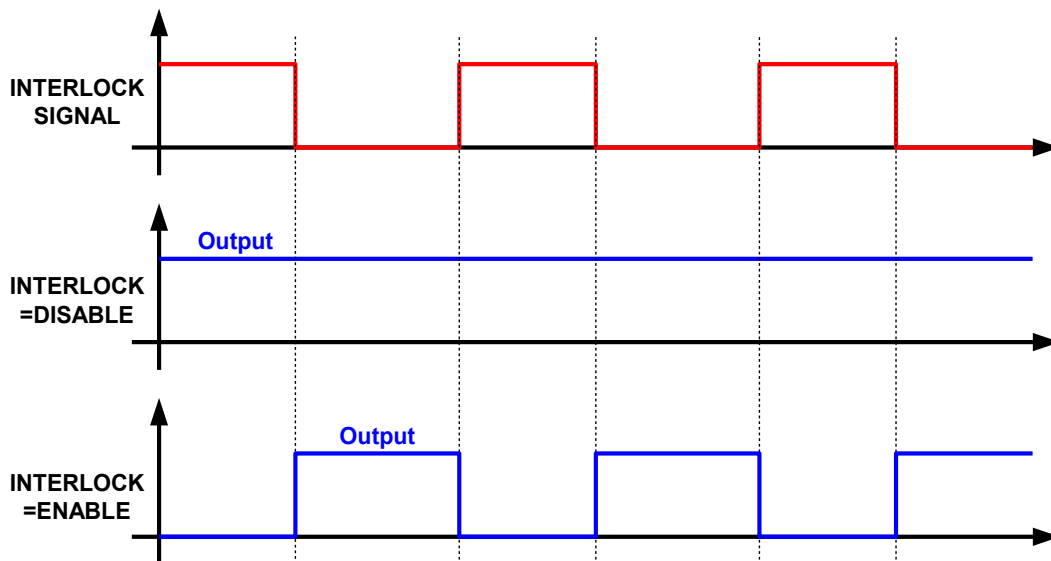

Figure 3-33
- When the DC power supply is set to OUTPUT = ON, the detailed actions of the Safety Interlock are shown in Figure 3-33.